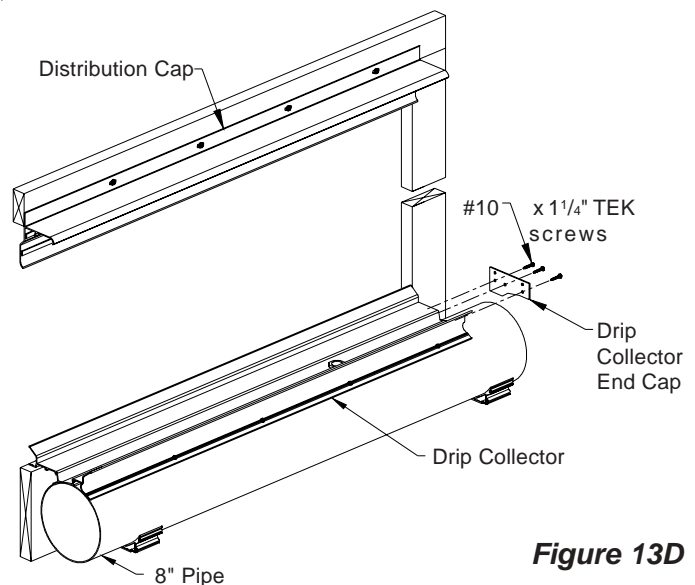

Figure 13D
- 17a) On right side of system apply PVC cement to end of drip collector and line up the 3 holes in the drip collector end cap to the 'U' Channels in the drip collector, fasten using (3) #10 x 1 1/4" TEK screws (provided). **See Figure 13D.**